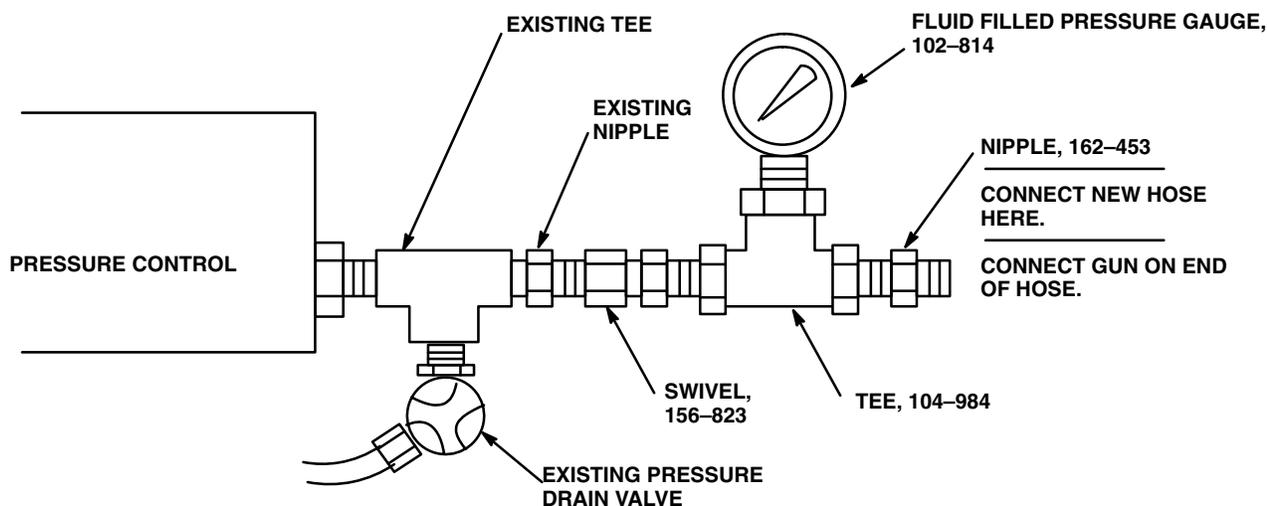

Fig 26-1
2. See the above list of tools and equipment needed. Install the new parts shown in Fig 26-1. Connect the gun to the **new** test hose